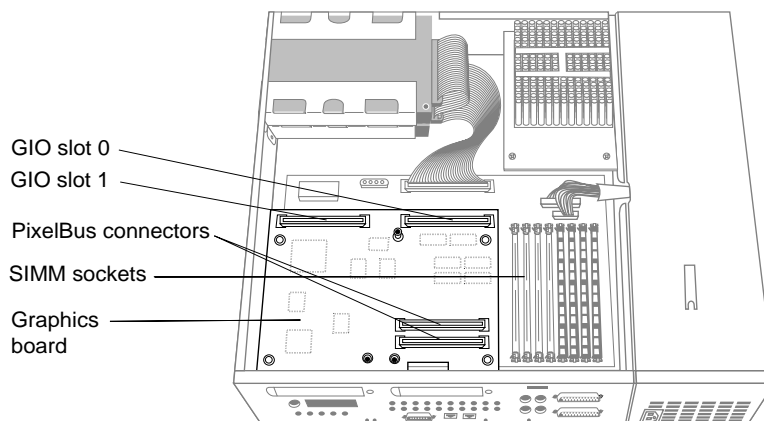

Figure 4-1 Locating the GIO Board Connectors on the Graphics Board
5. Move the system or position yourself so that you are facing the rear of the system as shown in Figure 4-1. You’ll be connecting the GIO option board to the graphics board.